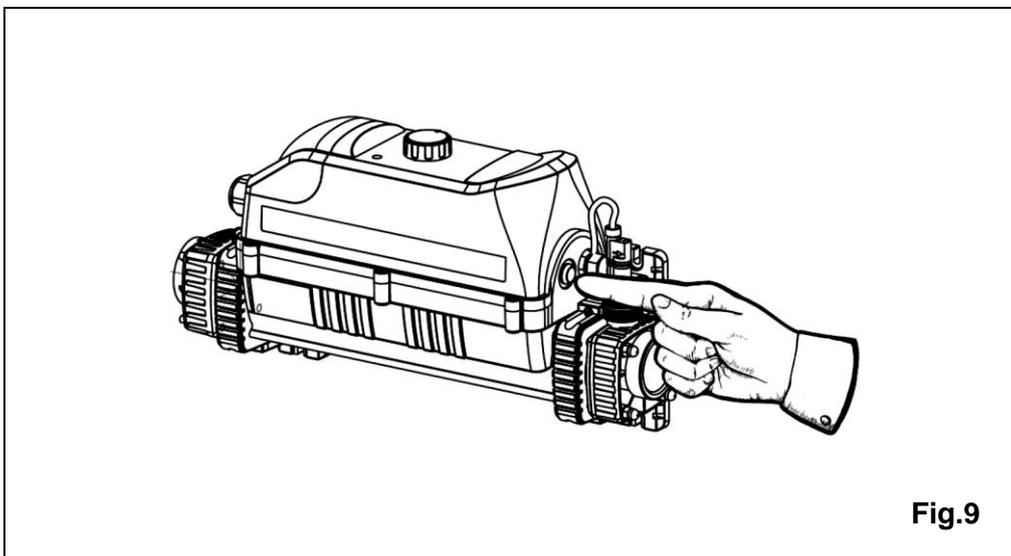

Fig.9
**NOTE:** *The Safety Circuit is fitted with a **TEST BUTTON** which must be tested after completing installation of the heater to confirm it is operating correctly. When pressed, the RCD should instantly trip and cut the power to the unit (See Fig. 9).*